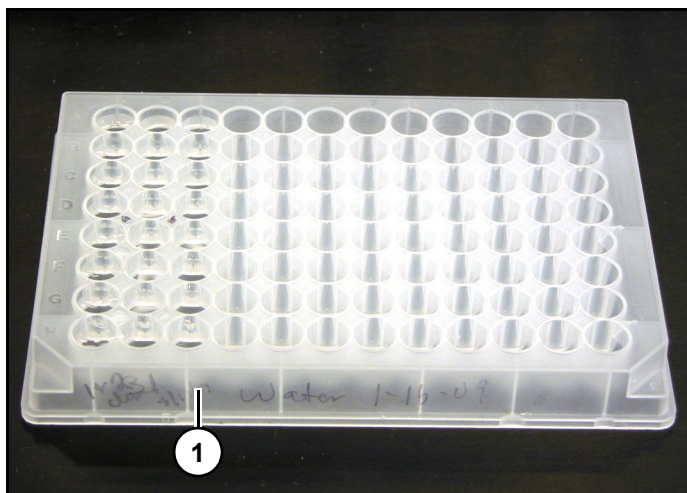

Figure 17
4. Prepare source plate (1) (Figure 17) with desired liquid at required volumes.